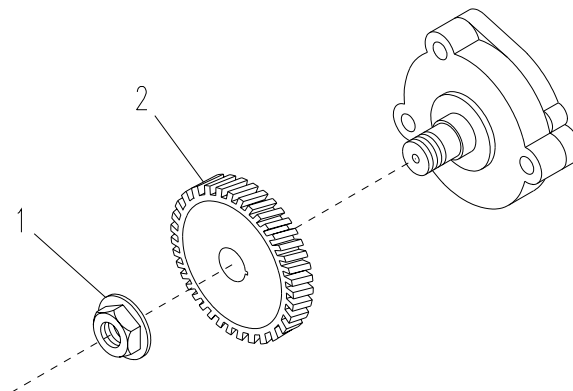

Figure 6-18. Oil Pump Gear
- a. Set up a dial indicator with its tip on a tooth of the oil pump gear (2, Figure 6-18).